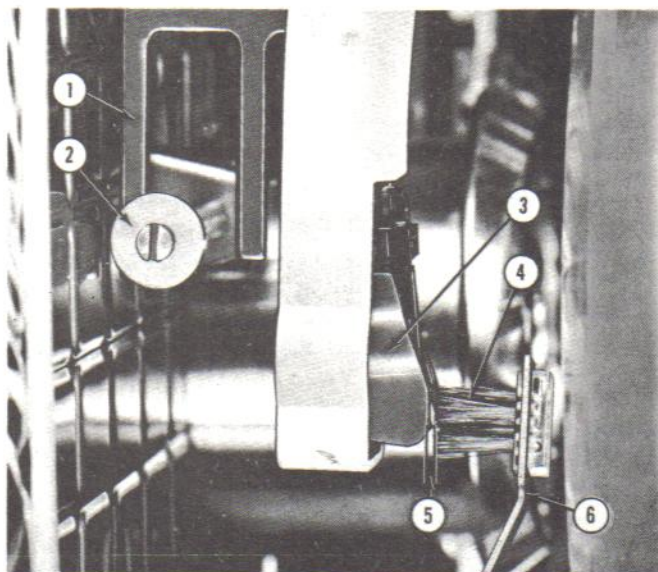
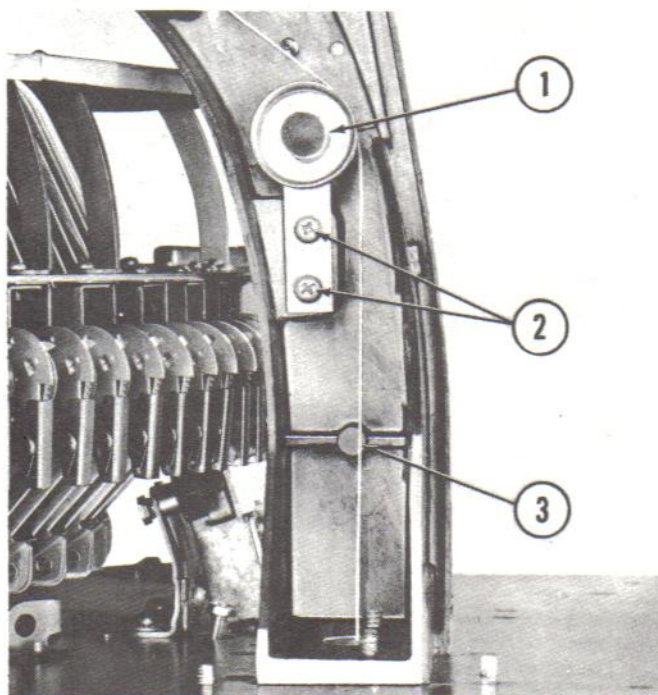
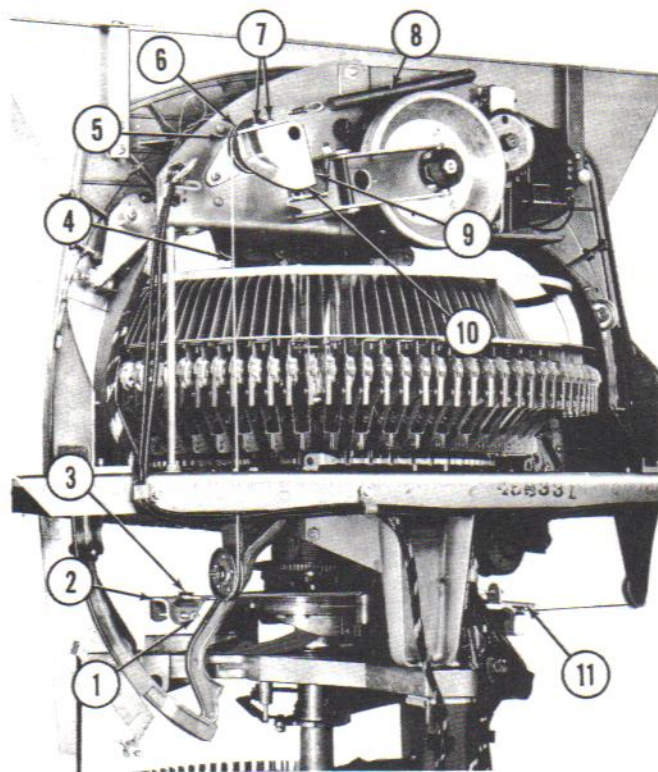

Fig. 72. TONE ARM NEEDLE BRUSH ADJUSTMENT
Fig. 73. NEEDLE BRUSH ADJUSTMENT
Fig. 75. ACTUATING ARM AND CABLE ADJUSTMENT
(6) The tone arm needle brush adjustment should be made with the phonograph in its normal rest position. The needle brush (Fig. 72, Item 4) should be 1/4" to 1/2" below the cartridge. The dimension may be varied by loosening the mounting screws (Fig. 73, Item 2) and moving the idler wheel. The needle brush arm and shaft assembly is spring
loaded and is released by the transfer switch cam follower (Fig. 75, Item 11). The brush sweeping across the stylus removes lint and dust accumulated from the record. The tip of the stylus should project into the brush a depth of 1/32". The brush arm (Fig. 72, Item 6) may be formed to provide the correct wiping action.
The actuating arm and cable adjustment for the turntable and tone arm (Fig. 75, Item 2) should be made with the mechanism in play position. Set the adjusting screw (Item 1) so that the roller (Fig. 75, Item 10) on the turntable release lever touches the cam wall (Fig. 75, Item 9) with no slack in the cable (Item 4).
(2) Remove the two screws holding the stop plate to the turntable cam (Fig. 75, Item 7) to allow the cam to rotate counterclockwise, as viewed from the rear, far enough to hook the loop in the long end of the cable over the slide pin (Item 3).
(3) The short end of the cable will pass once around the drive pulley (Item 6) and hook to the